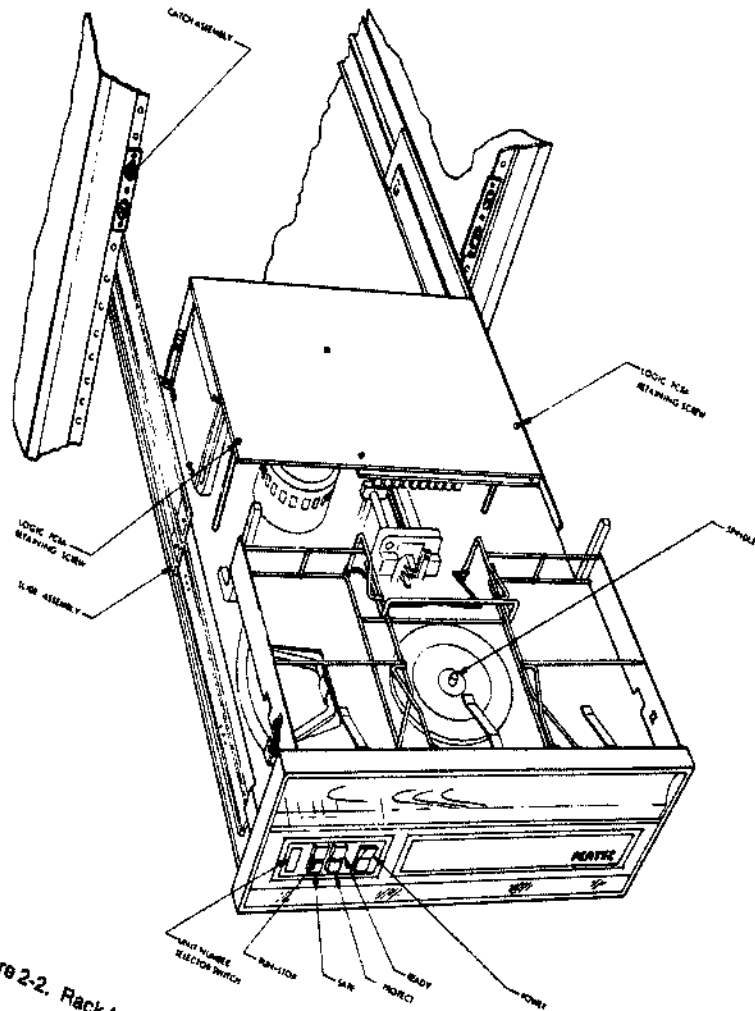
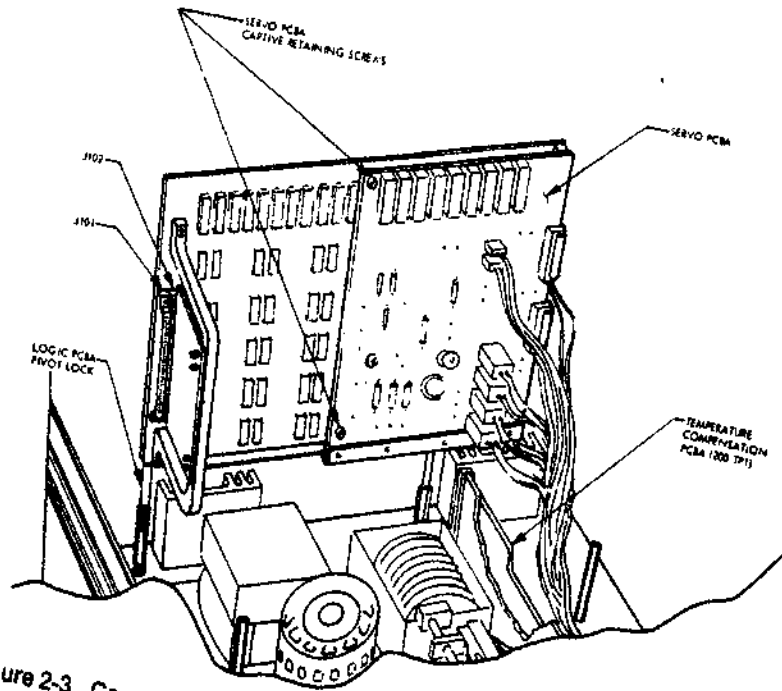

Figure 2-2. Rack Mounting the D3000 Disk Drive
Figure 2-3. Component Identification, Logic and Servo PCBs Extended
- (6) Locate and loosen the two retaining screws (shown in Figure 2-2) on top of the Logic PCBA; rotate the hinged card structure up and to the rear. The spring-loaded PCBA pivot-lock automatically locks the Logic PCBA into the vertical position as shown in Figure 2-3.
- (7) Loosen the two retaining screws which secure the Servo PCBA to the Logic PCBA (see Figure 2-3).
- (10) Repeat Step (8) to return the disk drive to the Ready condition.
- (11) Place the power ON/OFF switch to the OFF position; verify that:
- (12) Before the disk has the opportunity to coast to a stop, place the power ON/OFF switch to the ON position; verify that the SAFE indicator does not become illuminated until after the disk(s) has coasted to a stop.
- (13) Remove the cartridge as described in Paragraph 3.4.2 or 3.4.4.
- (14) Place the power ON/OFF switch to the OFF position.
- (15) Position the Servo PCBA in the closed position and secure it to the Logic PCBA with the two captive retaining screws (shown in Figure 2-3).
- (16) Slide the spring-loaded sleeve of the Logic PCBA pivot lock downward to release the pivot lock (see Figure 2-3).
- (17) Lower the Logic PCBA and secure it to the PCBA support brackets using the two retaining screws (shown in Figure 2-2).